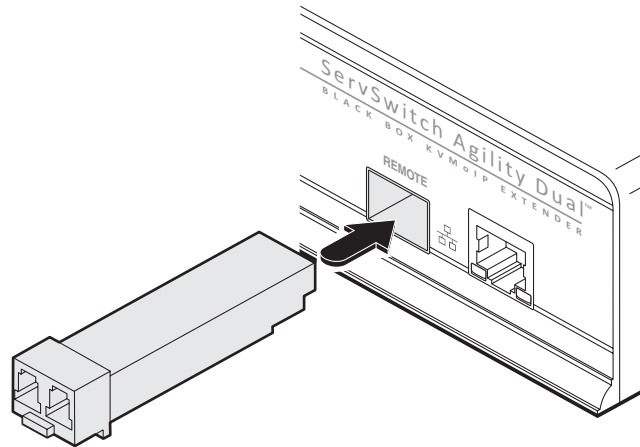

Figure 3-14. Insert an appropriate single mode or multi mode fiber module.
- 1 Insert an optional SFP (multi mode or single mode) fiber module into the aperture on the ServSwitch Agility Dual front panel. See Figure 3-14.